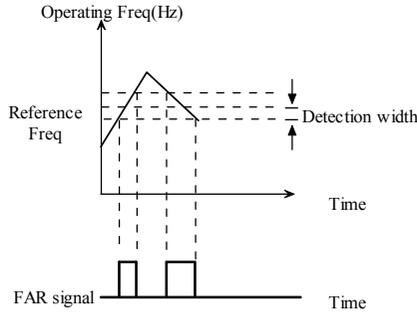

Figure. 5-3-8 FAR detection diagram
- ◆ When the output frequency reaches the frequency set point, the function adjusts its detection width. The adjustment range is  $0 \sim \pm 10.00\text{Hz}$  of the set frequency. When the inverter's output frequency is within the positive and negative detection width of the set frequency, related output terminal is active, as shown in Fig. 5-3-8.